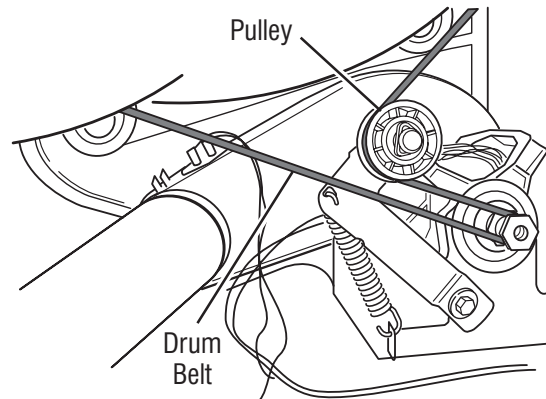

Figure 7 - Slowly remove drum belt.
7. Check the drive motor. Slowly remove the drum belt from the spring-loaded pulley, gently letting the pulley down. See figure 7.